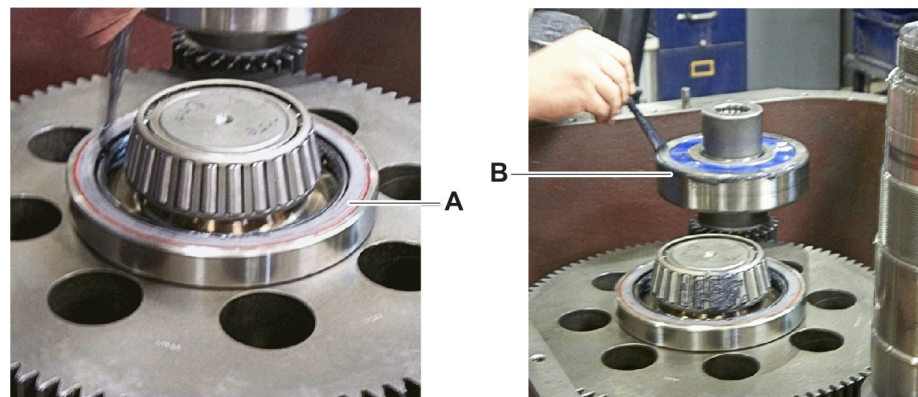

Figure 7
12. Apply a layer Ronex-HD grease to the intermediate shaft seal lips (Figure 7, item A), the rollers on the upper intermediate bearings (item B), and the outer races of the input pinion.